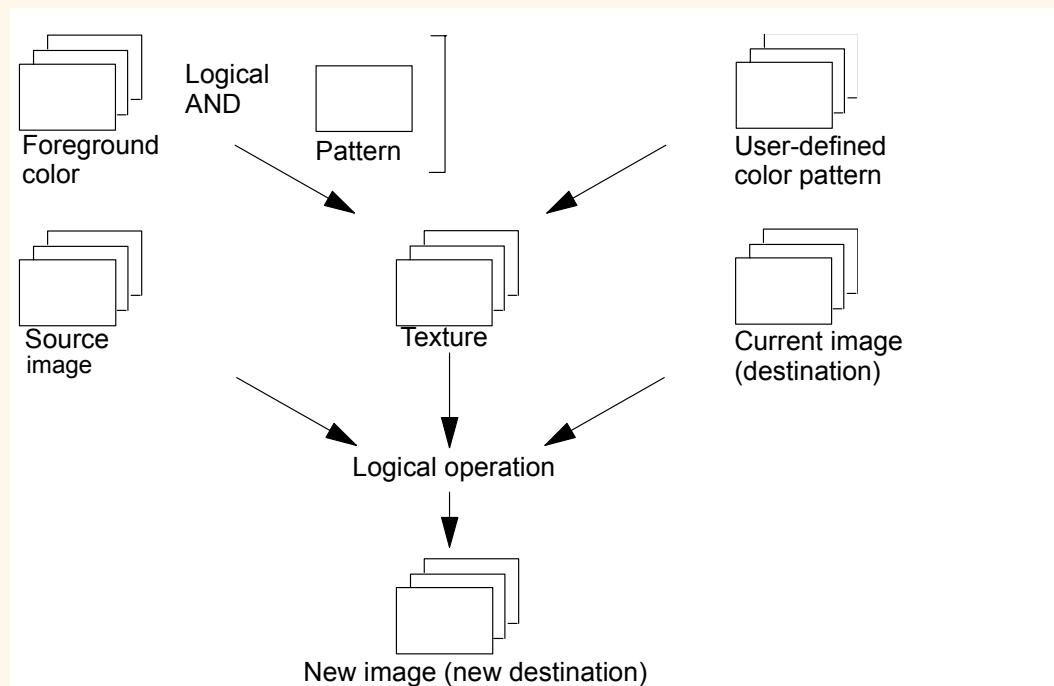

Figure 166. Forming a New Image Using Color, Pattern, and Source Image
*Figure 166* shows how these components interact.